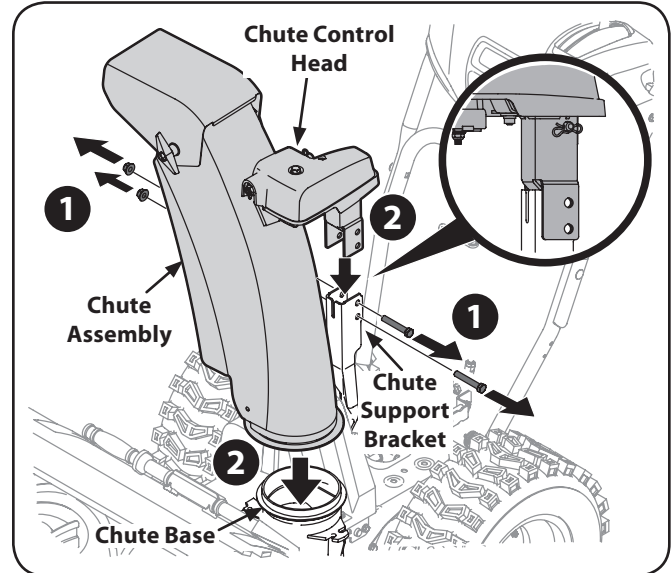

Figure 3-15
1. Remove the lock nuts and hex screws from chute support bracket. Position the chute assembly over the chute base. See Figure 3-15.